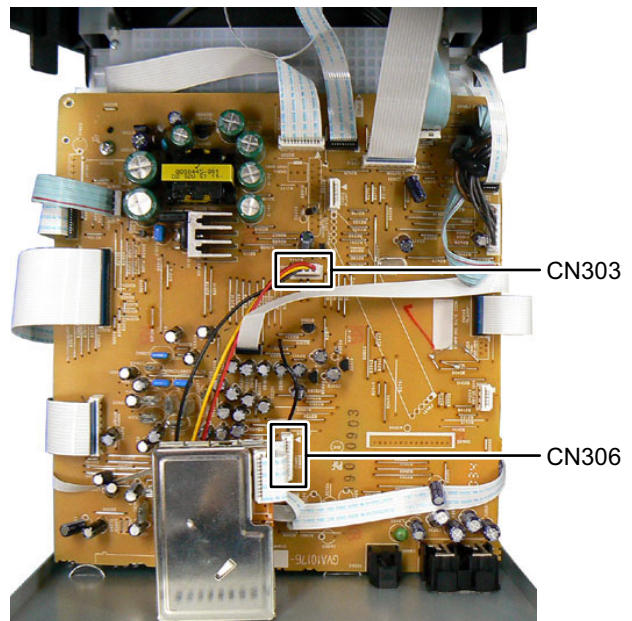

Fig.4
3.1.2 Removing the Rear panel (See Fig.4, 5)
- (1) Disconnect the card wire from Tuner pack connected to connector **CN306** of the Main board. (See Fig.4)
- (2) Disconnect the connector wire from FAN connected to connector **CN303** of the Main board. (See Fig.4)